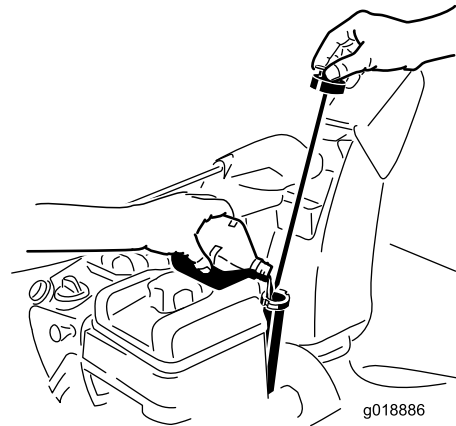

Figure 12
1. Remove the dipstick and **slowly** pour oil into the oil fill tube to raise the oil level to the Full mark on the dipstick. **Do not overfill.** (Figure 12).